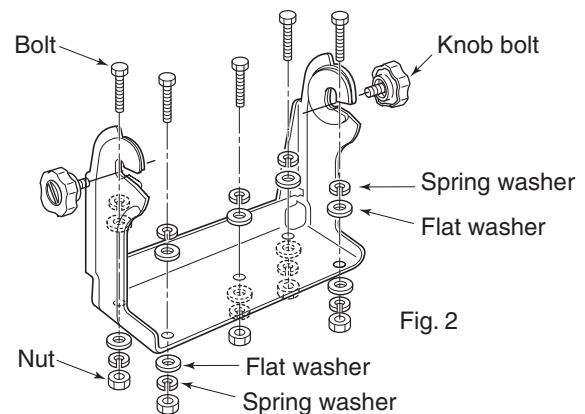

Fig. 2
- ③ Install the bracket using the knob bolts, bolts, nuts or washers with the supplied accessories. (Fig. 2)
- ④ Adjust the display unit to an adequate view angle.